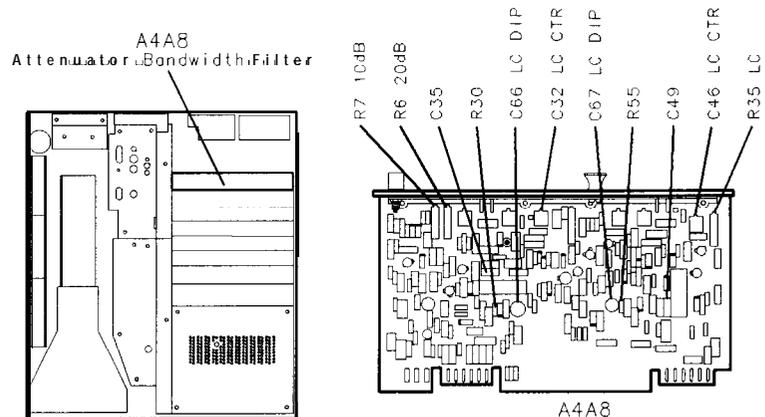

Figure 3-43.
30. Adjust A4A8C32 LC CTR and A4A8C46 LC CTR for maximum MARKER level as indicated by CRT annotation. See Figure 3-43 for location of adjustments. If unable to adjust A4A8C32 and A4A8C46 LC CTR adjustments for satisfactory signal amplitude, increase or decrease value of A4A8C35 and A4A8C49. Refer to Table 3-3 for range of values.
34. Adjust A4A8R35 LC to align markers on display. **MARKER A** level should indicate 1.00 X. See Figure 3-43 for location of adjustment.
61. Adjust A4A8C66 LC DIP for minimum amplitude of signal peak. See Figure 3-43 for location of adjustment. Key in **[PEAK SEARCH] MARKER [Δ]**, and adjust LC DIP again to offset the signal peak
63. Adjust A4A8C67 LC DIP for minimum amplitude of signal peak. See Figure 3-43 for location of adjustment. Key in PEAK SEARCH MARKER Δ, and adjust LC DIP again to offset the signal peak approximately -17 kHz (to the left). If unable to achieve a “dip” in signal amplitude, increase or decrease value of A4A8R55. Refer to Table 3-3 for range of values.
72. Adjust A4A8R7 A10dB to align markers on display. MARKER A level should indicate 0.00 dB. See Figure 3-43 for location of adjustment.
74. Adjust A4A8R6 A20dB to align markers on display. MARKER A level should indicate 0.00 dB. See Figure 3-43 for location of adjustment.